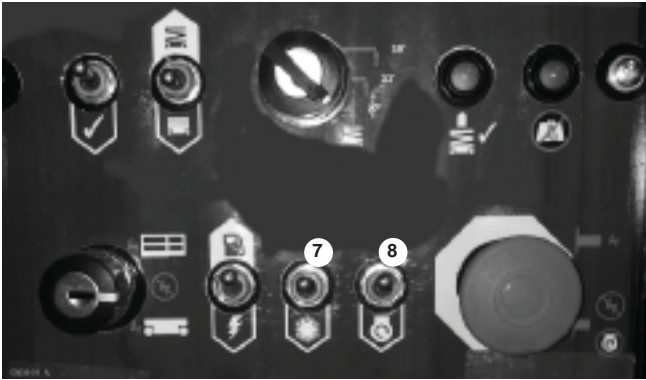

Figure 11.15
6. If the engine is cold, press and hold the choke switch (7) (see figure 11.15) during the next step.
7. Press the start switch (8) down and hold it there until the engine starts or for 20 seconds, whichever comes first. When the engine starts, release both the start switch (8) and the choke switch (7).